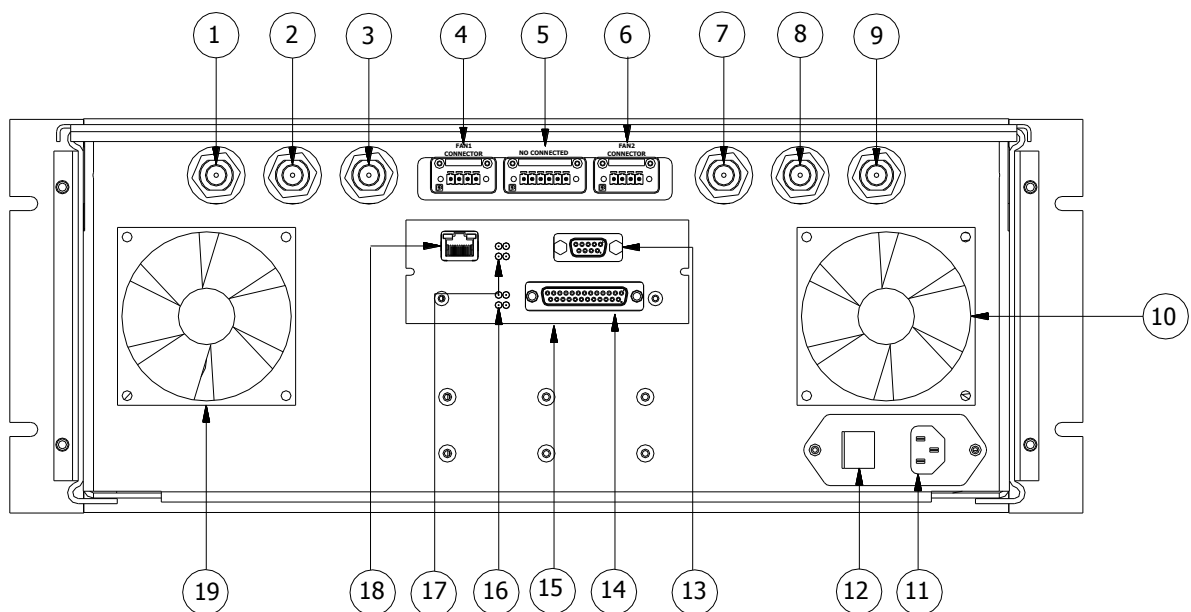

Figure 2 - Rear Panel details.
Figure 2 shows the connectors and visual status that the D.U.T rear panel has. Table 2Table 1 contains a brief explanation.
1. Use an Ethernet crossover cable for connect equipment directly to a PC computer LAN port (refer to Item #8 in Figure 2).
1. Use a coaxial cable to connect the test instrument input to D.U.T. Donor/Base or Service/Mobile when corresponds (refer to Items #2 and #8 in Figure 2).
2. Use a coaxial cable to connect the RF generator output to D.U.T. Donor/Base or Service/Mobile when corresponds (refer to Items #2 and #8 in Figure 2).